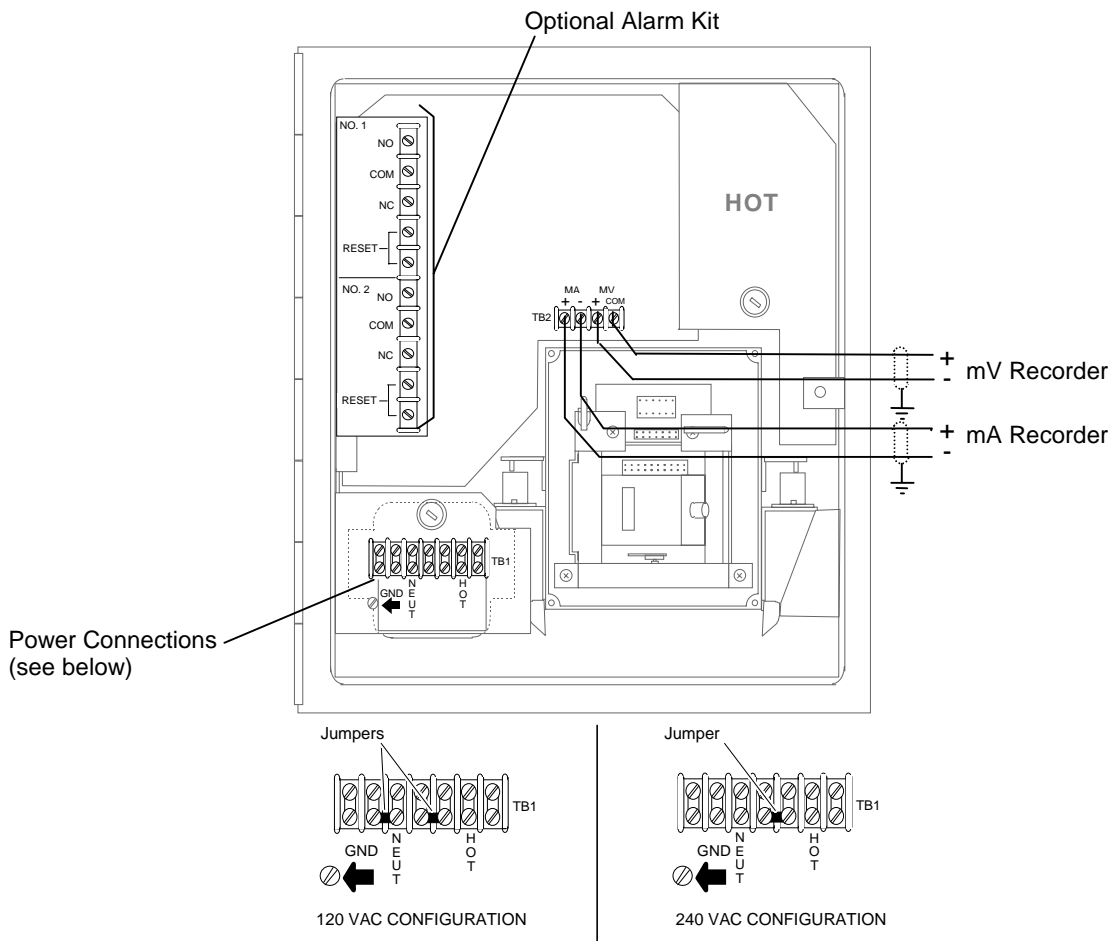

FIGURE 2-1. ELECTRICAL CONNECTIONS
Electrical power is supplied to the analyzer via a customer-supplied, three-conductor cable, type SJT, minimum wire size 18 AWG. Route power cable through conduit and into appropriate opening in the instrument case (see Installation Drawing 642349). Connect power leads to HOT, NEUT, AND GND terminals on TB1, see Figure 2-1. Connect analyzer to power source via an external fuse, in accordance with local codes.
On TB2, Figure 2-1, connect leads of shielded recorder cable to "MV+" AND "COM" terminals.
2. On TB2, Figure 2-1, connect leads of shielded recorder cable to "MA+" and "-" terminals.
The alarm output provides two sets of relay contacts for actuation of alarm and/or process control functions. Leads from the (customer-supplied) external alarm system connect to terminals on the 638254 Alarm Relay Assembly (see Figure 2-1).